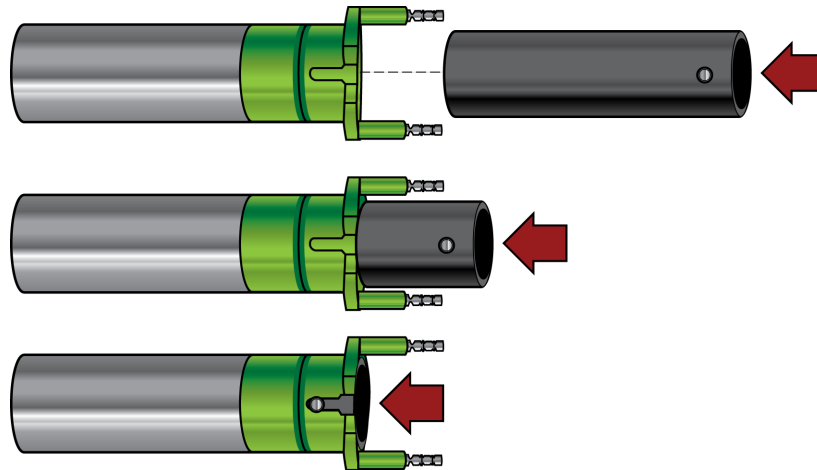

Figure 4-6: Install Window Tube
4. To insert the tube into the Lens cartridge, align the small peg on the Window Tube with the notch in the Lens Cartridge (see **Figure 4-6**) and gently push the tube into the Lens Cartridge.